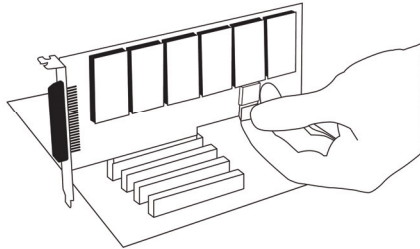

Figure 9: Connect Power for FXS Quad Modules
4. If your card has any FXS quad modules, you will also need to connect the power cable from your computer's power supply to the bottom of the card. Insert a four-pin 12 volt connector (disk drive power supply cable, e.g. hard drive) into the white plastic connector on the bottom of the card. See Figure 9.